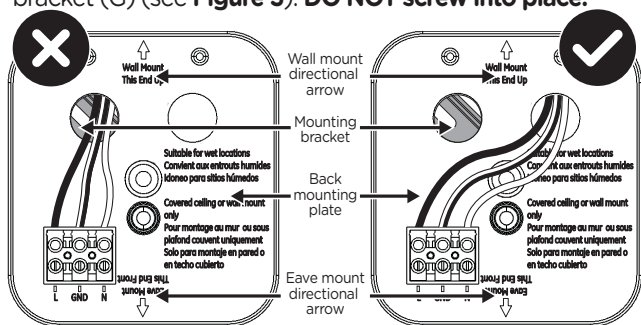

Figure 3
- Firmly pull on the mounting bracket (G) to ensure it is securely attached to the junction box. If necessary, use the screws that were removed from the existing light fixture to secure the mounting bracket (G).
- The back mounting plate (L) has pre-installed Line (black), Neutral (white) and Ground (green/yellow) wires with Push-in quick wire connectors (M).
- Observe the directional arrow on the back mounting plate (L) for the selected wall or eave mount installation (see Figure 3).
- Temporarily position the back mounting plate (L) with the selected installation Wall Mount or Eave Mount arrow in the indicated direction to determine the best hole in the back mounting plate (L) to route the wires to avoid contact with the installed mounting bracket (G) (see **Figure 3. DO NOT screw into place.**
- d. Pull the back mounting plate (L) away from the mounting bracket (G).
- e. If the wires did not pass through the hole in the back mounting plate (L) without contacting the mounting bracket (G), carefully pull the wires with Push-in quick wire connectors (M) through the back mounting plate (L) hole and insert through the other provided hole in the back mounting plate (L) (see **Figure 3**).
- Prior to making the electrical connections, ensure the previous **Step 7** is complete to route the electrical wires to avoid the mounting bracket (G) and route through the gasket (H) (see **Figure 3**).